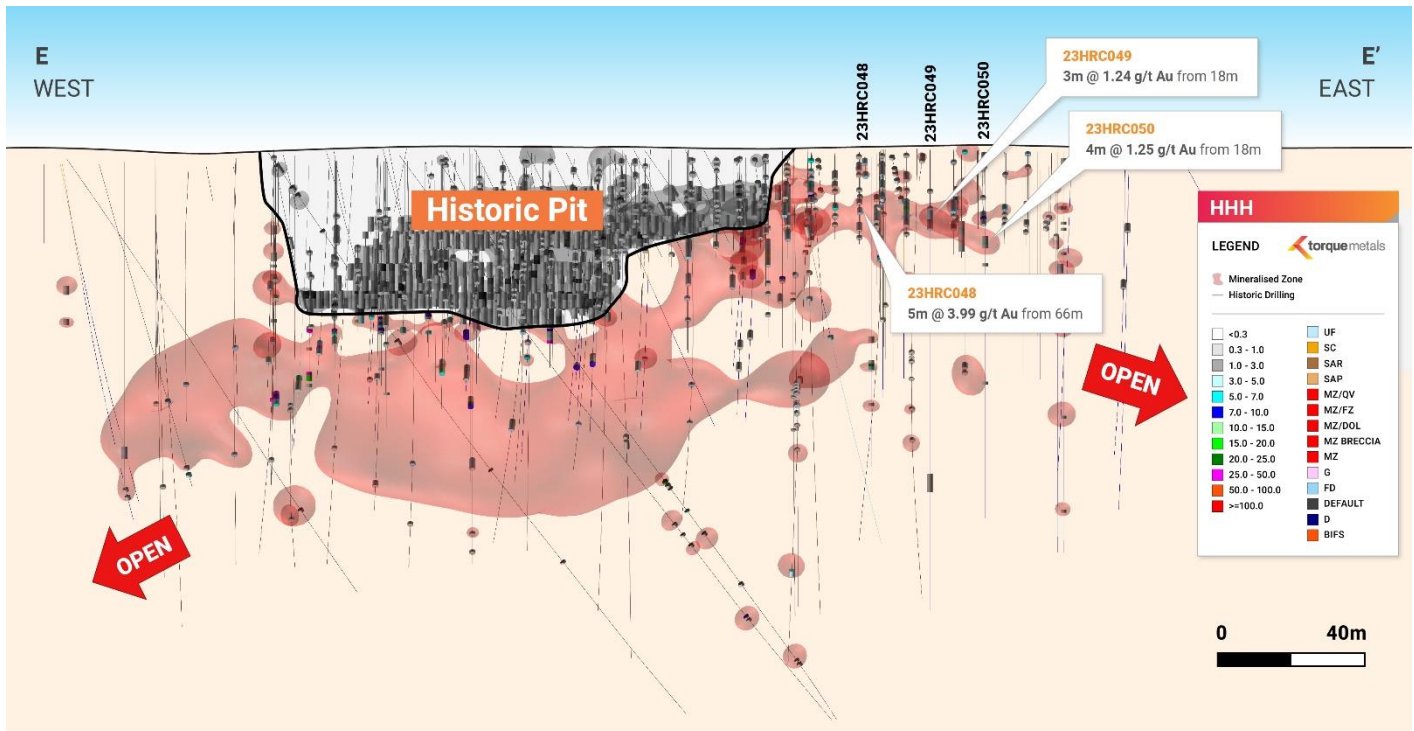

Figure 8 HHH prospect, W-E section of the mineralised structure
- Drilling between HHH and Paris open pits confirmed a brand-new mineralised trend (Eva prospect, Figures 8, 9), with best result of: